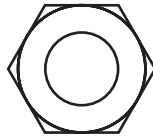

Fig. 13-6
1. As a general rule, the outside diameter of the washer face on a hex bolt head is the same as the distance across the hex flats. This dimension is approximately  $1\frac{1}{2}$  times the diameter of the bolt shank. Draw the head and washer face of the  $\frac{1}{4}$ " hex bolt shown in Fig. 13-6.